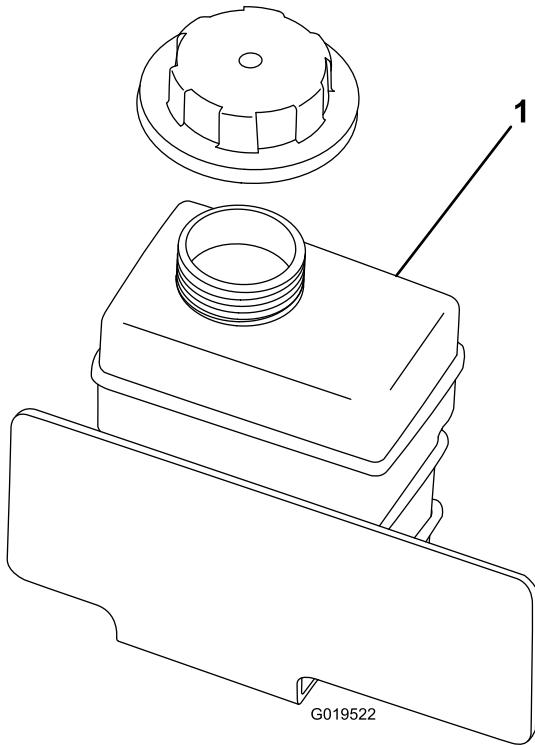

Figure 51
- Slowly fill the reserve tank until level reaches the bottom of the filler neck (Figure 51). **Do not overfill the reservoir.**
- Install the reserve tank cap (Figure 51).